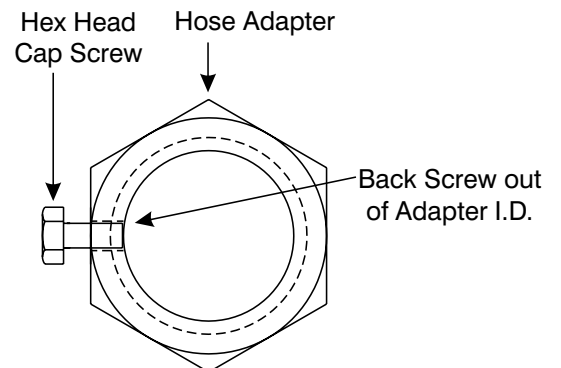

Figure 9-15. Inspect Hex Head Cap Screw
- Refer to Figure 9-15, and verify that the tip of the Hex Head Cap Screw does not project inside the Hose Adapter.